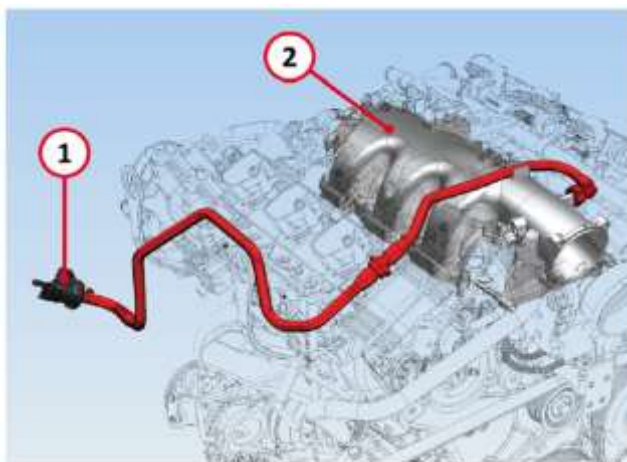
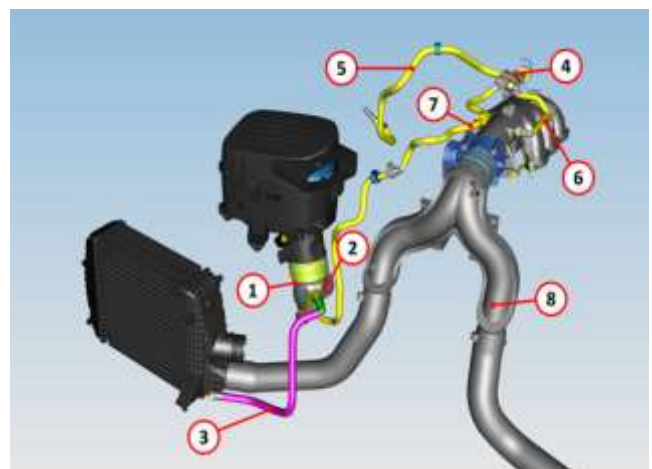

Figure 4: - Canister Purge valve on Sedan Models.
Figure 5: - Canister Purge valve on Levante.
3. If either or both the DTC P0496 or P0497, those related to a Purge valve malfunction (Figure 4; Figure5), are not stored on ECM go to step 9.
- Check the Purge connector integrity (Figure 4; Figure5), make sure there is no mark of oxidation and that pin tightness is secure and good.